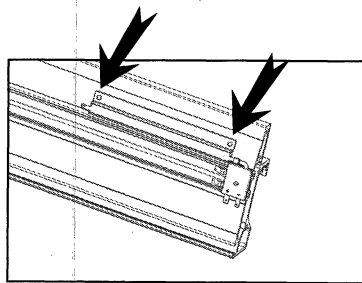

Fig. 7
10. Using two (2) self-drilling hex head screws, secure slow down strip to rail (Fig. 7). Do NOT overtighten!